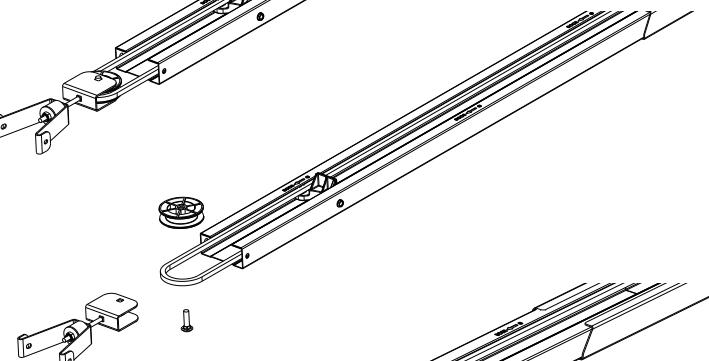

Fig. 2
2. Carefully remove the pulley pin. Fig. 2